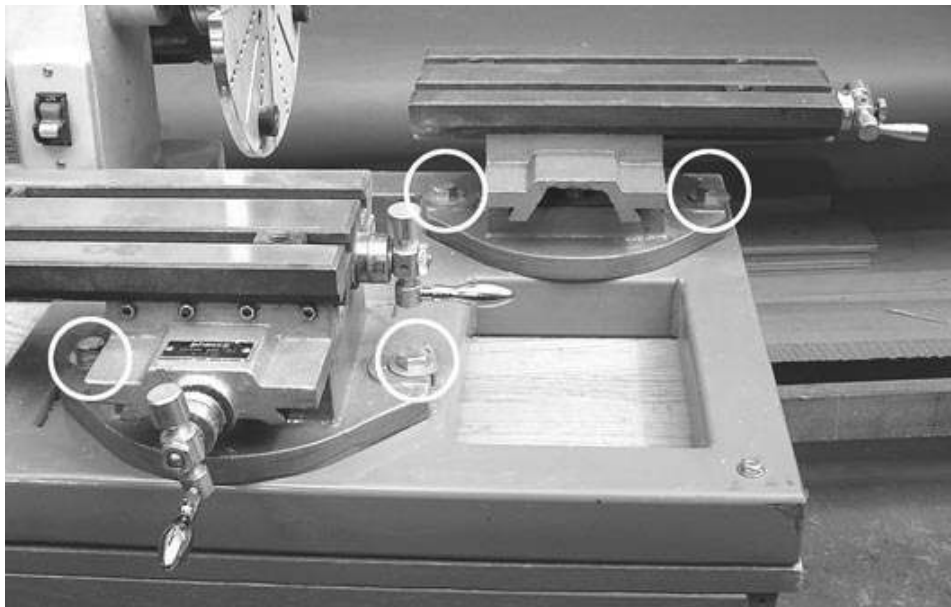

Figure 3 - Photograph of Bolts Used to Secure Cross Slides to Base
- Figure 3 - Photograph of Bolts Used to Secure Cross Slides to Base . . . . . 3